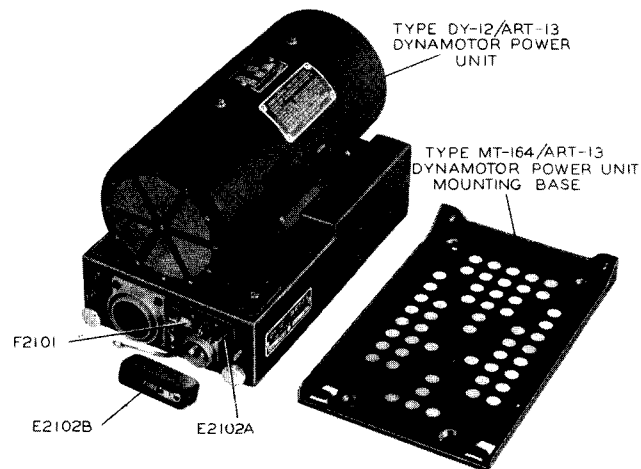

Figure 2-5. Type DY-12/ART-13 Dynamotor Power Unit and Mounting Base MT-164/ART-13
(e) Ground the grounding strap, attached to the power control unit, directly to the aircraft frame. See figure 1-6, page 1-4 and figure 2-5, for location of this strap on the power control unit.
(1) One 250 volt 1 amp fuse, Item F2101, is used in equipment. This fuse is located in the positive lead of the low voltage section of the dynamotor output circuit. Refer to figure 2-5 for the location of this fuse on the power control unit.
(2) Remove the fuse from the receptacle and check the rating.